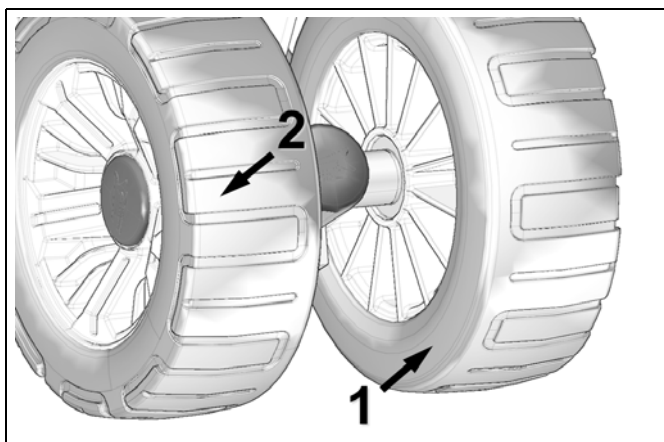

Figure 44
Verify wear on the urethane tires especially on the interior guidance strip (1) and between the tire profiles (2). The wheel must be replaced if the inner surface is worn out or the tire is cracked between the tire profiles. A wheel that is excessively worn will not offer enough support for track guidance. Refer to Figure 44.